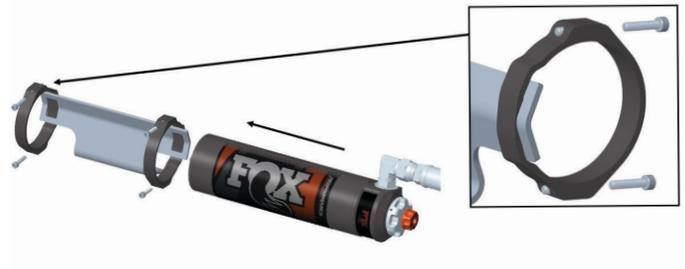

Fig. 3: Mount the reservoir to the brackets.
7. Using the two supplied billet clamps and screws, mount the reservoir to the brackets (Fig. 3). Utilize the slots in the bracket to locate the clamps. Do not feed the clamps through the slots in the brackets. Torque the (4) four screws to 19 in-lbs.